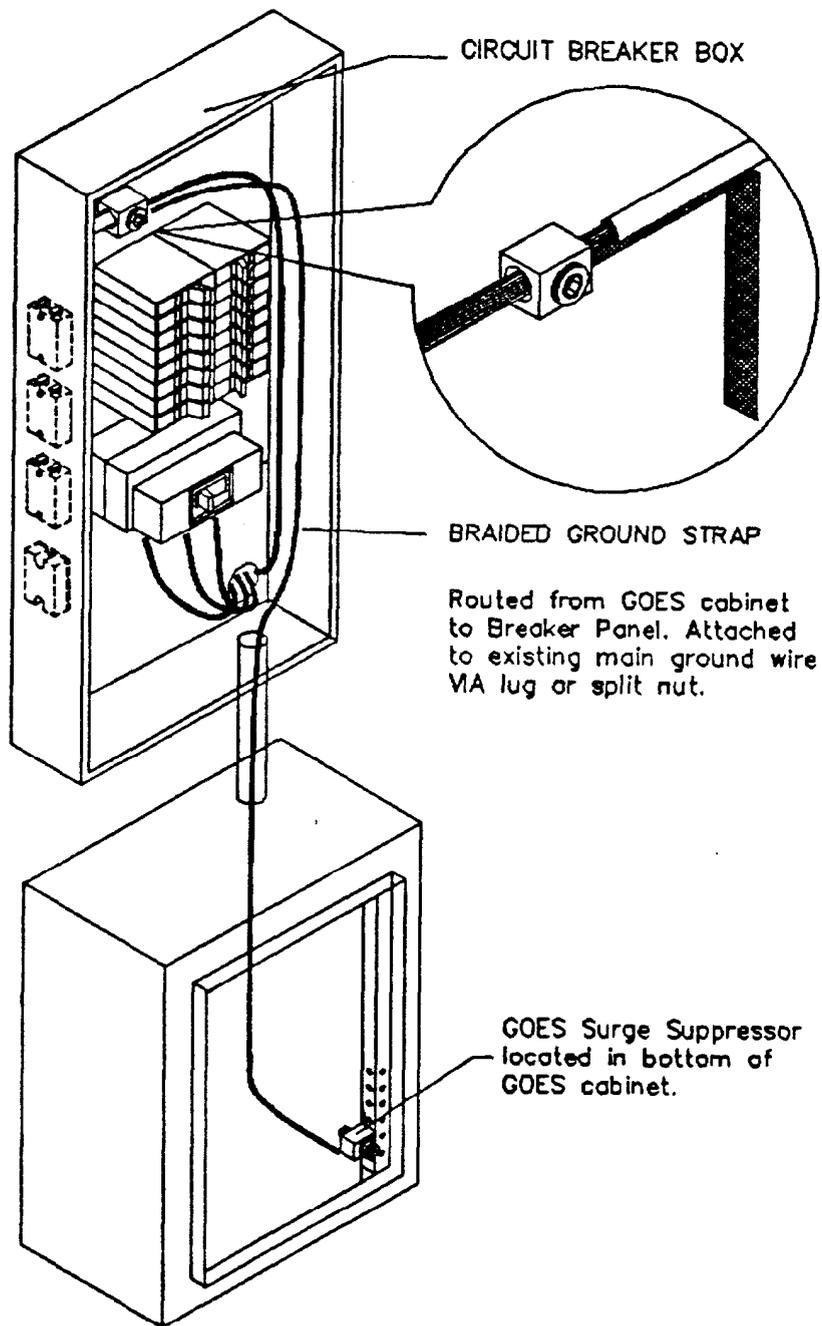

Figure 1
5. Refer to figure 1. Locate the incoming service ground. It should be marked with green tape and terminate at a large ground lug near the top of the panel. Please let the PCC know if there is no incoming ground wire from the AC service. You may complete this installation without the ground service. The PPO will upgrade any profiler site that lacks the 3-wire plus ground service.
7. Turn off the DC OUTPUT POWER SWITCH located at the top of the 3489A Uninterruptible Power Supply. Disconnect the AC power cable from the PRIMARY AC POWER INPUT (31).
11. Thread the flat braid up through the conduit between the GOES equipment box and the circuit breaker box. To do this, tape the end of the braid to the existing AC cord in the GOES box and pull up the AC cord in the panel enough to expose the braid. Remove the electrical tape and pull up enough braid to connect to the ground lug in the breaker panel. Route the braid so it cannot touch any AC bus bars or hot contacts. Do not loop or twist the braid. Use tape or cable ties and secure the braid to the existing ground wires inside the panel. Avoid sharp bends. Refer to figure 1 for ground braid routing.
12. Loosen the ground lug in the breaker panel. Insert the flat braid and tighten the screw lug as shown in figure 1. Be sure to replace any other ground wires that were in the lug. If there is no incoming ground service, connect the braid to the same lug as the other ground wires. Tell the PCC of the ground deficiency.